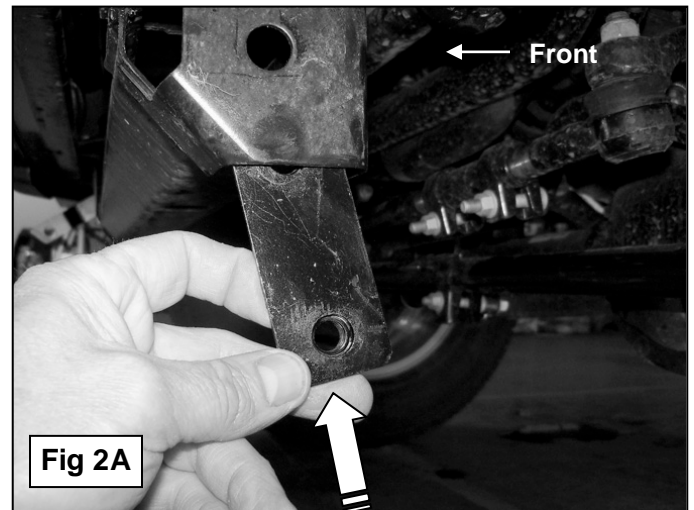
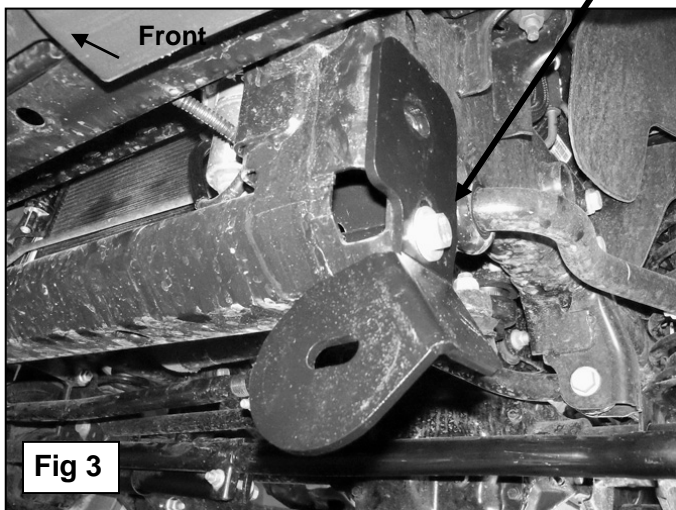
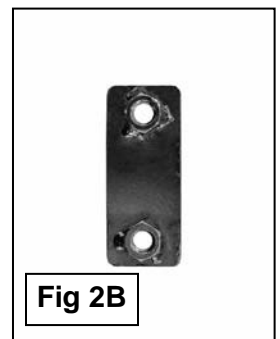

Fig 2A
Fig 3
Fig 2B
- Starting on the driver side, insert (1) 12mm Double Nut Plate, **(Figure 2A)**, into the opening in the end of the frame crossmember, **(Figure 2B)**. Line up the lower threaded hole in the Nut Plate with the lower hole in the frame. Select the driver side Mounting Bracket. Bolt the Mounting Bracket to the side of the crossmember with (1) 12mm x 25mm Hex Bolt, (1) 12mm Flat Washer and (1) 12mm Lock Washer inserted through the lower hole in the Bracket, crossmember and into the Double Nut Plate, **(Figure 3)**. Leave hardware loose at this time.
Insert the 12mm Double Nut Plate (2B) into the opening in the bottom of the end of the crossmember with the flat side against the crossmember (Fig 2A) and the hex nuts facing inward (Fig 2B)